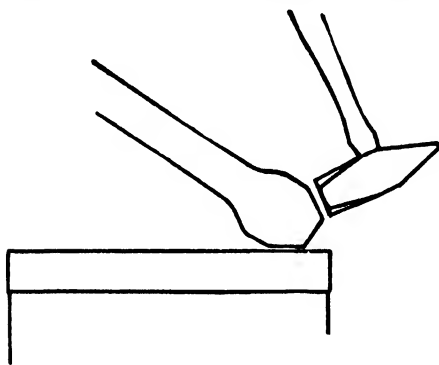

FIG. 28
2. Tilt the stock on the face of the anvil to an angle of about thirty degrees and flatten the opposite corners of the upset end at two points. Fig. 28.